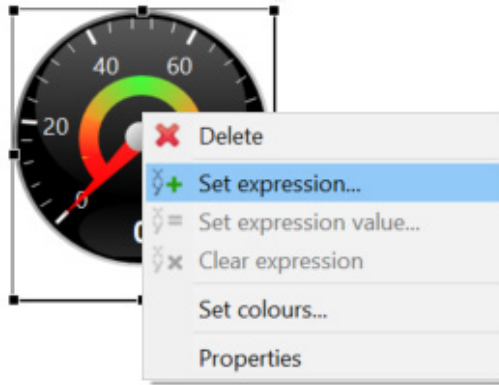
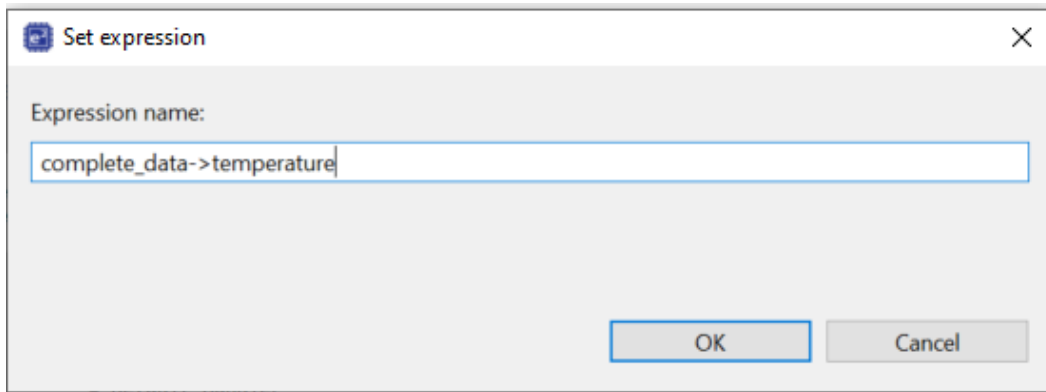

Figure 22. Set Gauge Expression
Figure 23. Set Expression Name
- 7. Right-click on the GAUGE and select **Set expression** (see Figure 22). This opens the **Set expression/Expression name** window (see Figure 23).